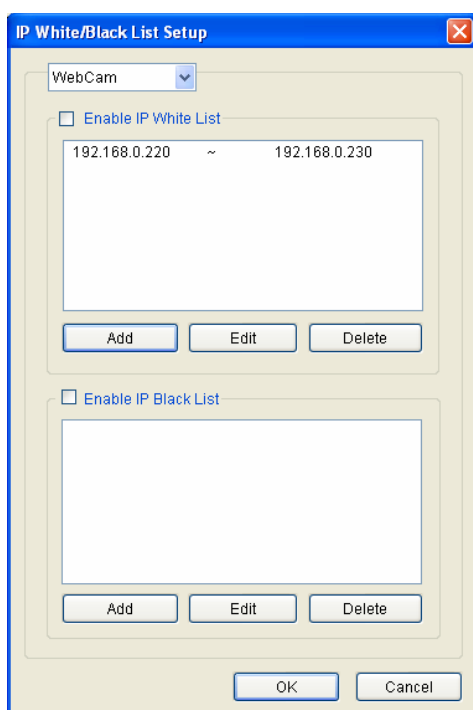

Figure 11-66
- ⑩ **Kick:** Disconnects the user from the WebCam server.
- ⑩ **Block IP:** Prohibits the IP address from connecting to the WebCam server. To use the function, the **Enable IP Black List** option (Figure 11-66) must be selected first.
- ⑩ **Bandwidth Setup:** Select **By Username** to specify a bandwidth limit for the user, or select **By IP** to limit the bandwidth used by the IP address. A setup dialog box will appear. In this example, an IP address is selected for bandwidth limit setup. Select **Bandwidth Setup**, specify a bandwidth limit, and then click **OK**.